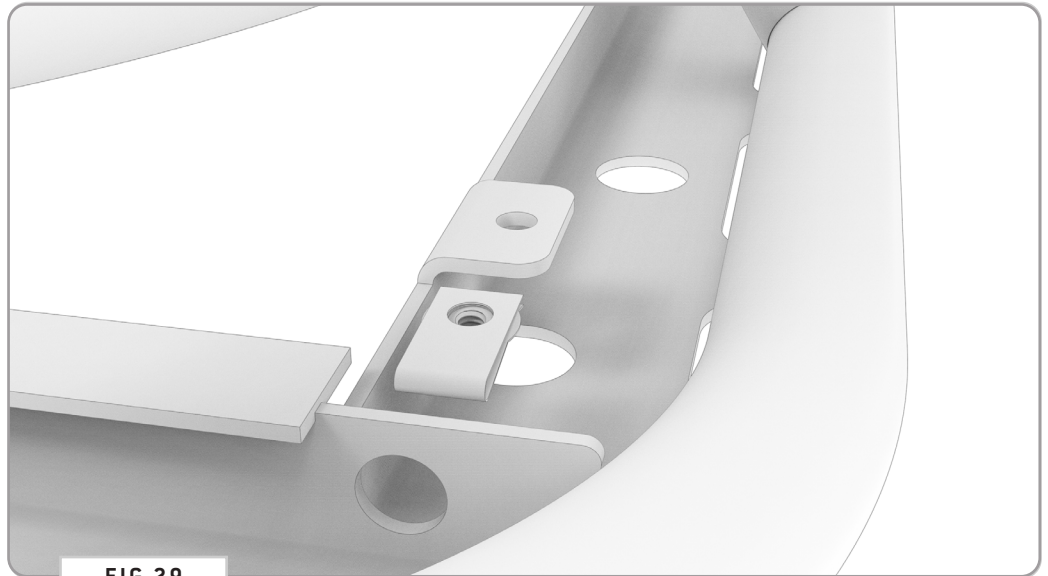

FIG 29
**NOTE** - The flat side of the **Clip Nut** should be facing upwards (FIG 29)